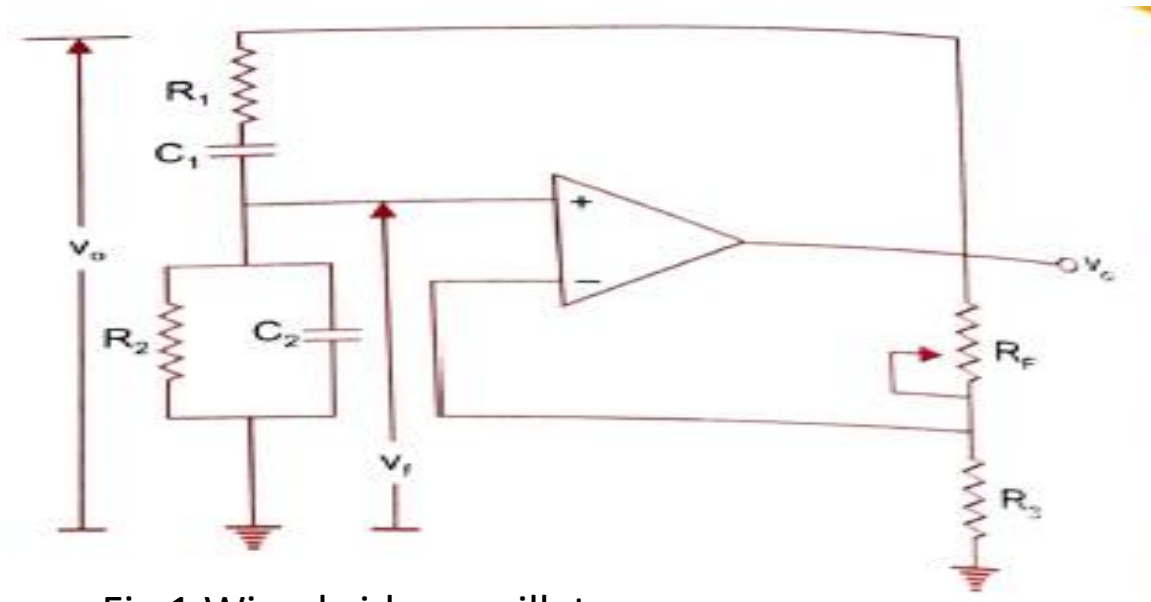

Fig 1 Wien bridge oscillator
- Another commonly used audio frequency oscillator is a Wien bridge oscillator. The circuit is shown in Fig. 1.